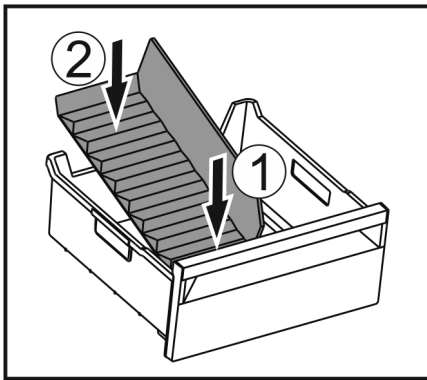

Fig. 120
- ▶ Insert the front part of the ice compartment divider. Fig. 120 (1)
- ▶ Lower the rear part of the ice compartment divider to the drawer bottom. Fig. 120 (2)